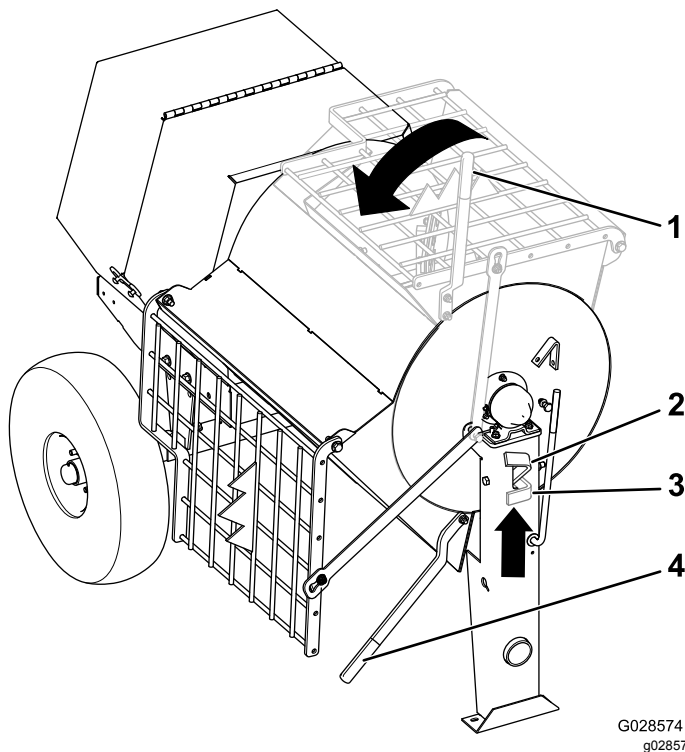

Figure 31
- Grasp the dump handle with your left hand (Figure 31).
- Lift the handle of the drum latch (Figure 31).
- With both hands on the dump handle, rotate it counterclockwise to discharge the contents of the drum (Figure 31).
- Rotate the dump handle **clockwise** until the drum latch locks the drum in the upright position (Figure 31).